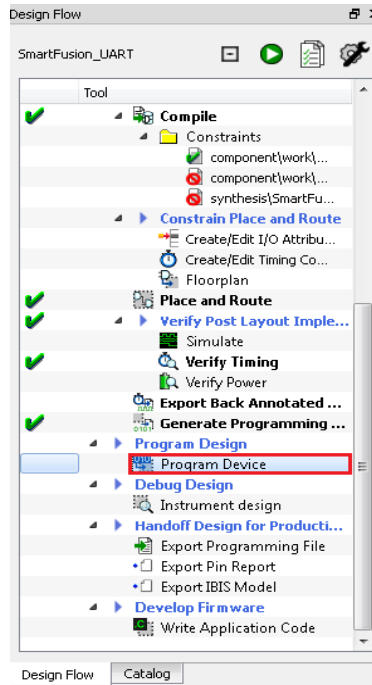

Figure 16 · Design Flow Window
1. Double-click **Program Device** under **Program Design** in the **Design Flow** window to program the SmartFusion cSoC device as shown in Figure 16 . .